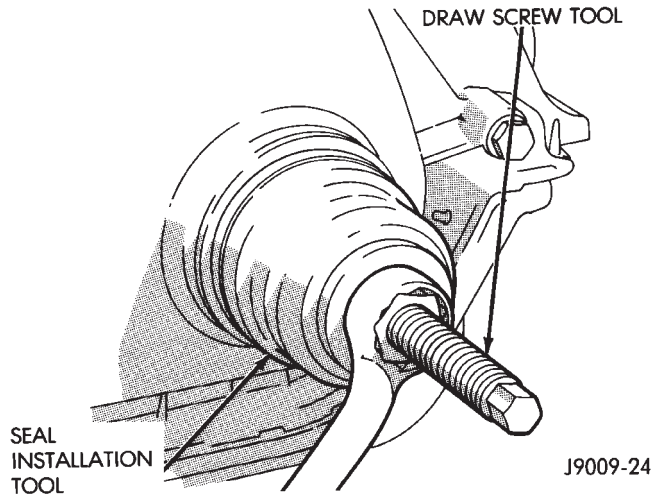

Fig. 40 Timing Case Cover Oil Seal Installation
(1) Position the replacement oil seal on Timing Case Cover Alignment and Seal Installation Tool 6139 with seal open end facing inward. Apply a light film of Perfect Seal, or equivalent, on the outside diameter of the seal. Lightly coat the crankshaft with engine oil.
(2) Position the tool and seal over the end of the crankshaft and insert a draw screw tool into Seal Installation Tool 6139 (Fig. 40). Tighten the nut against the tool until it contacts the cover.